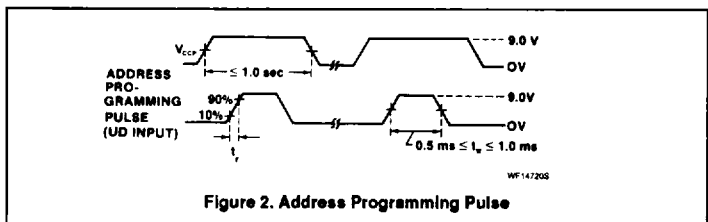

Figure 2. Address Programming Pulse
Step 3: After V_{CC} has stabilized, apply a single programming pulse (Figure 2) to the user-bus bit that corresponds to the desired high-level IV address bit. The I/O port is programmed from the user bus (UD0 – UD7) for addressing from the Microcontroller bus (IV0 – IV7).